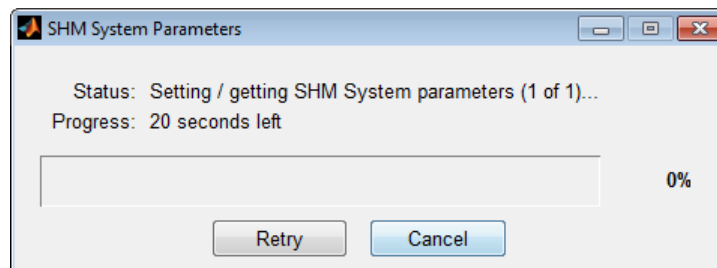

Figure 4.2: 'SHM System Parameters' dialog box.
- ✓ **Step 4.4** From the main menubar click Commands > Set MapID... > Unassigned/duplicate. A 'SHM System Parameters' dialog box will appear, as shown in Figure 4.2, displaying the status of the set MapID parameter and the time remaining to receive a verification.